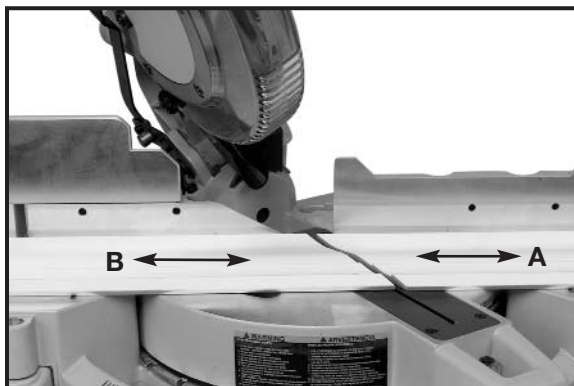
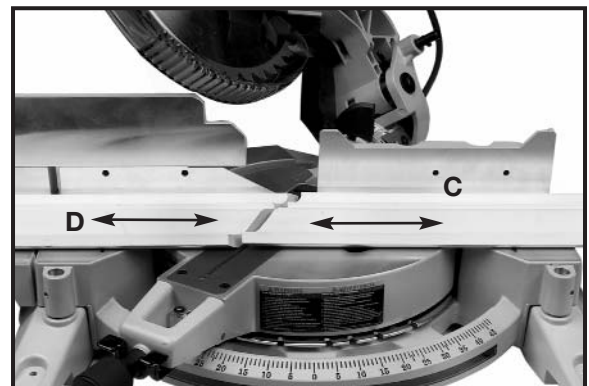
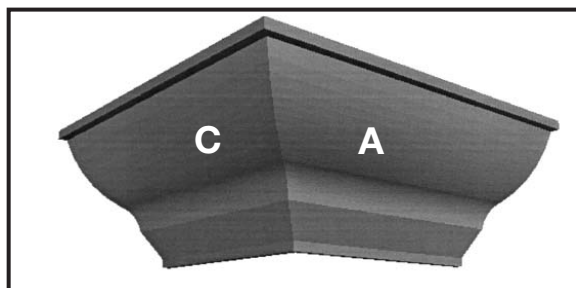
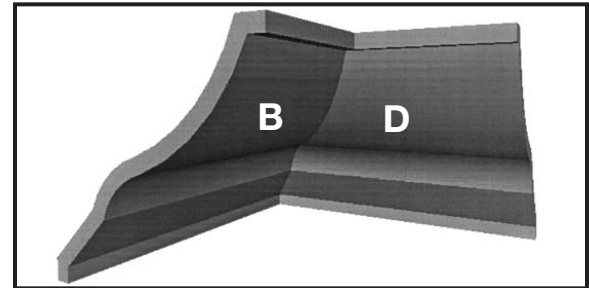

Fig. 38
Fig. 39
Fig. 40
Fig. 41
3. Place the crown moulding on the table with the **CEILING EDGE** of the moulding against the fence, and make the cut, as shown in Fig. 38.
NOTE: The piece of crown moulding used for the outside corner will always be on the right hand side of the blade, as shown at (A) Fig. 38. The piece of crown moulding used for the inside corner will always be on the left hand side of the blade, as shown at (B) Fig. 38.
5. Place the crown moulding on the table with the **WALL EDGE** of the crown moulding against the fence and make the cut. Again, the piece of crown moulding used for the outside corner will always be on the right side of the blade, as shown at (C) Fig. 39. The piece of crown moulding used for the inside corner will always be on the left side of the blade, as shown at (D) Fig. 39.
6. Fig. 40 illustrates the two outside corner pieces; the piece cut at (A) Fig. 38 and the piece cut at (C) Fig. 39.
7. Fig. 41 illustrates the two inside corner pieces; the piece cut at (B) Fig. 38, and the piece cut at (D) Fig. 39.